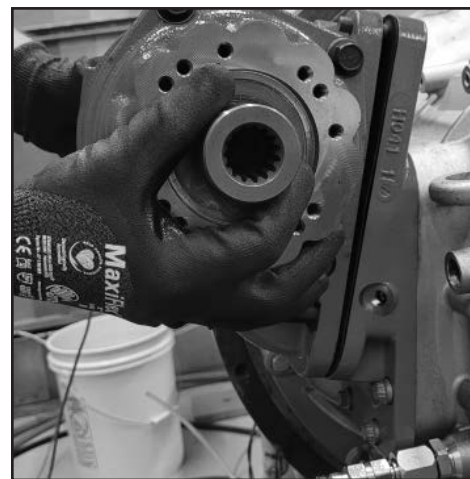
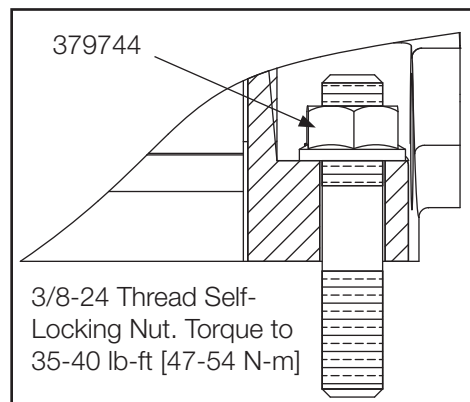

Figure 10
Figure 11
2. Place the PTO on the Adapter over the dowels and studs (**Fig. 10**). Use the five self-locking nuts from the stud kit. Torque to 35-40 lb-ft. [47-54 N-m] (**Fig. 11**).
**NOTE:** Self-locking nuts do not require lock washers (**Fig. 11**).